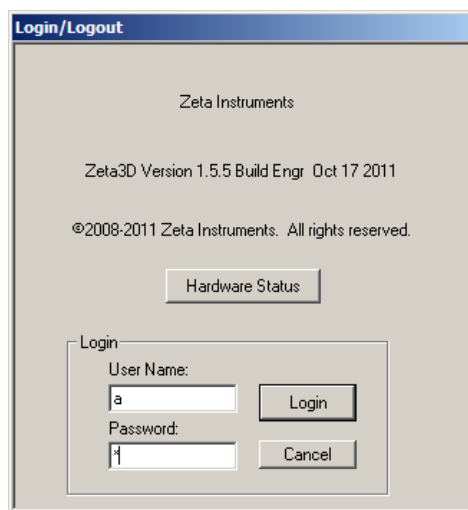

Fig. 6. Zeta3D software login screen
5. Log in to the Zeta 3D software in the popup window shown in Fig. 6. The user name and password are set to "a" at the factory but you may have other user accounts on your system.